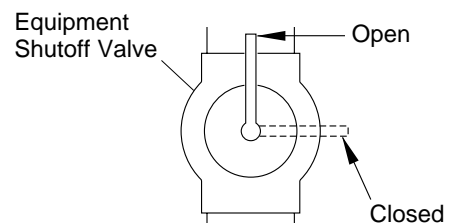

Figure 6 - Equipment Shutoff Valve
1. Open equipment shutoff valve (see Figure 6, page 6).